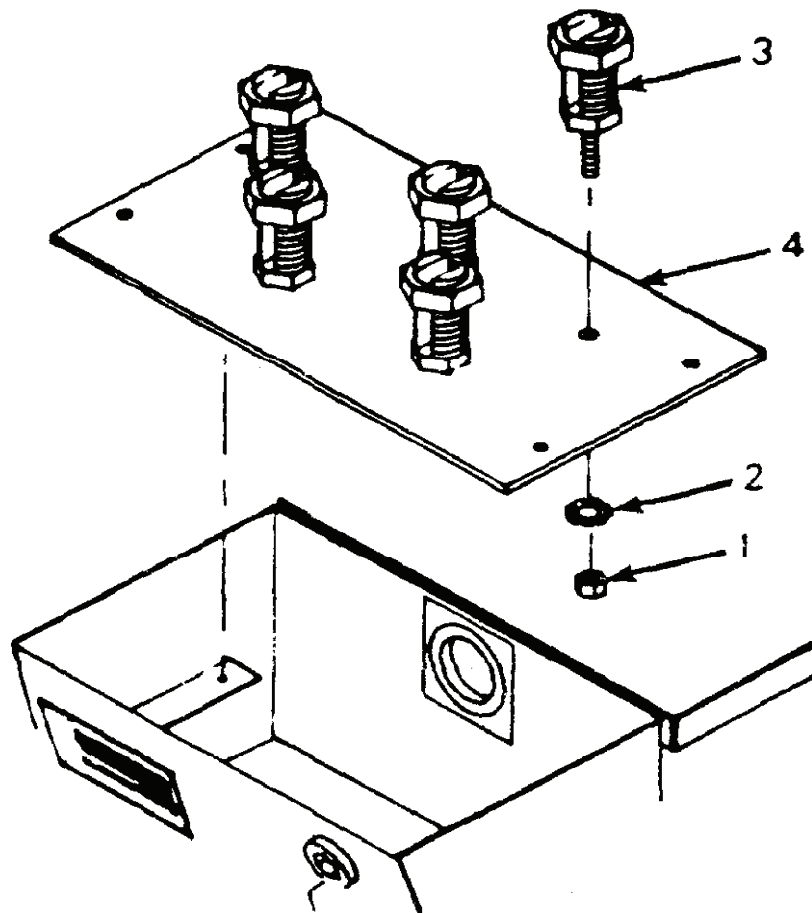

Figure 1. Load Terminal
2. Remove nuts (Figure 1, Item 1) and washers (Figure 1, Item 2) securing load terminal (Figure 1, Item 3) to terminal board (Figure 1, Item 4).
3. Remove load terminal (3).
4. Insert load terminal (3) through terminal board (4).
5. Secure load terminal (3) to terminal board (4) with nuts (1) and washers (2).